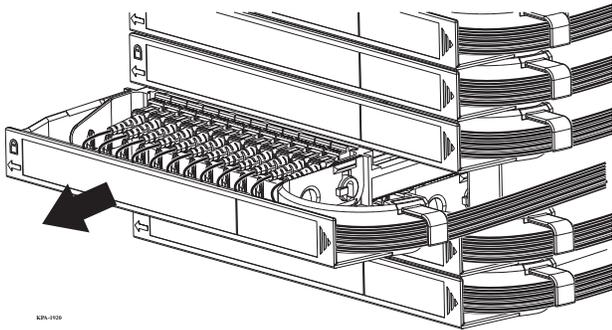
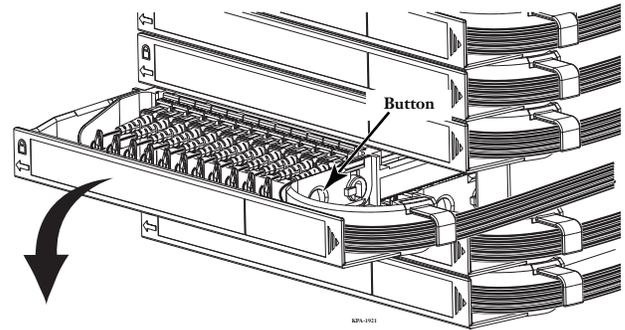

Figure 45
Figure 46
Step 1: Pull module out to detent position (Figure 45).
Step 2: Press buttons on each side of the module (Figure 46) and lower the handle.
Step 1: Pull the modules to be connected forward to the detent position (Figure 45). Press the buttons on each side of the module to drop the handle (Figure 46).